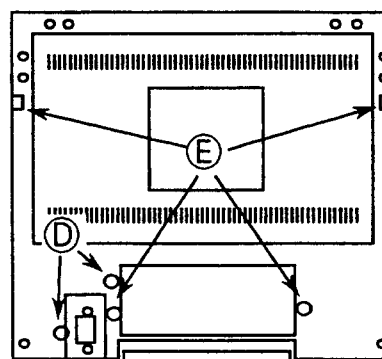

Fig. 2-2
- (1) Since the four positions ⑤ in Fig. 2-2 are hooked, align the hooks straight and let them move down.